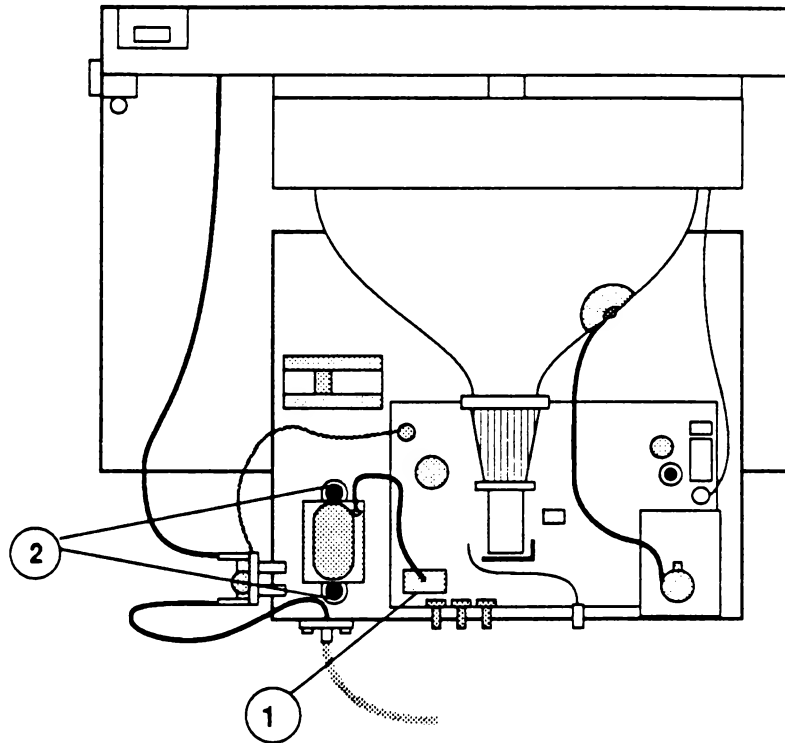

FIGURE 21
4. Disconnect the red pair of wires from T2 on the main electronics assembly (Figure 21, #1).
6. Remove the two transformer mounting screws (Figure 21, #2) and lift off the transformer.